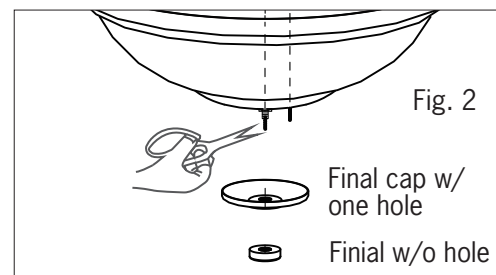

Fig. 2
**When using fan remote or wall controller,** make sure light is on with pull chain and fan is set at high speed then cut pull chain off. Cut off pull chains about 1 inch from bottom of threaded pipe or glass so that they will fit in final cap with one hole and finial without hole. Install the final cap and finial to fitter. (Fig.2)